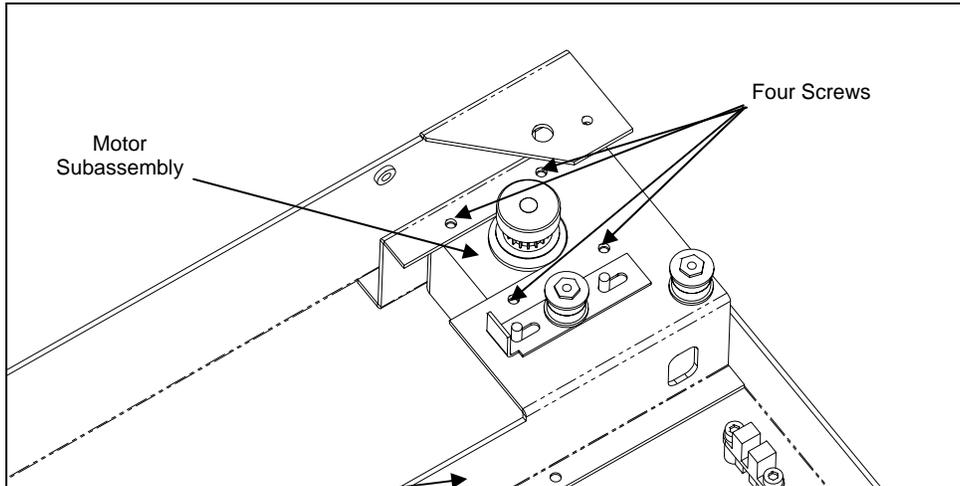

Figure 15-7 Motor Subassembly
- 2 Remove the four mounting screws (Figure 15-7).